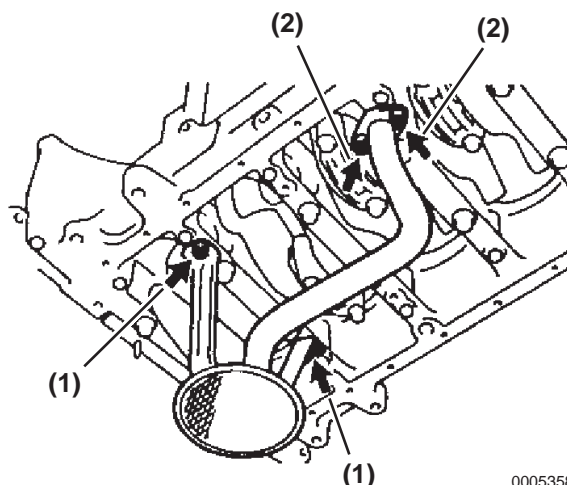

Figure 8-6
9. Remove the 2 bolts (**Figure 8-6, (1)**) and 2 nuts (**Figure 8-6, (2)**), and the oil strainer and gasket.